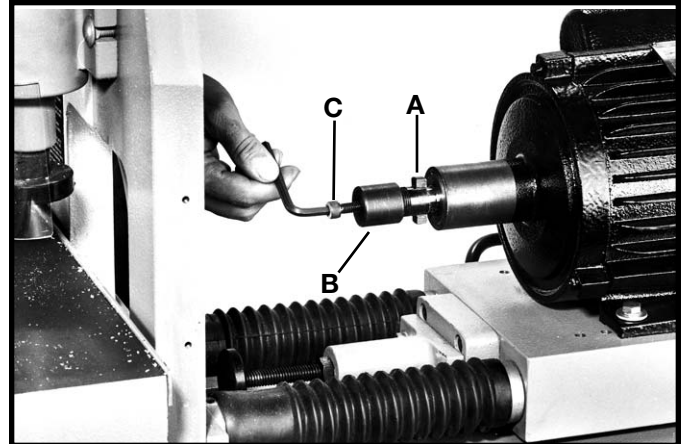

Fig. 40
If it is ever necessary to remove the spindle coupling (A) Fig. 40, for repair or replacement due to wear, proceed as follows:
3. Thread spindle coupling removal tool (B) Fig. 40, (supplied) onto spindle coupling (A).
4. Insert allen wrench into socket head screw (C) Fig. 40, located on the head of tool (B) as shown, and turn allen wrench clockwise until spindle coupling (A) releases from spindle shaft.